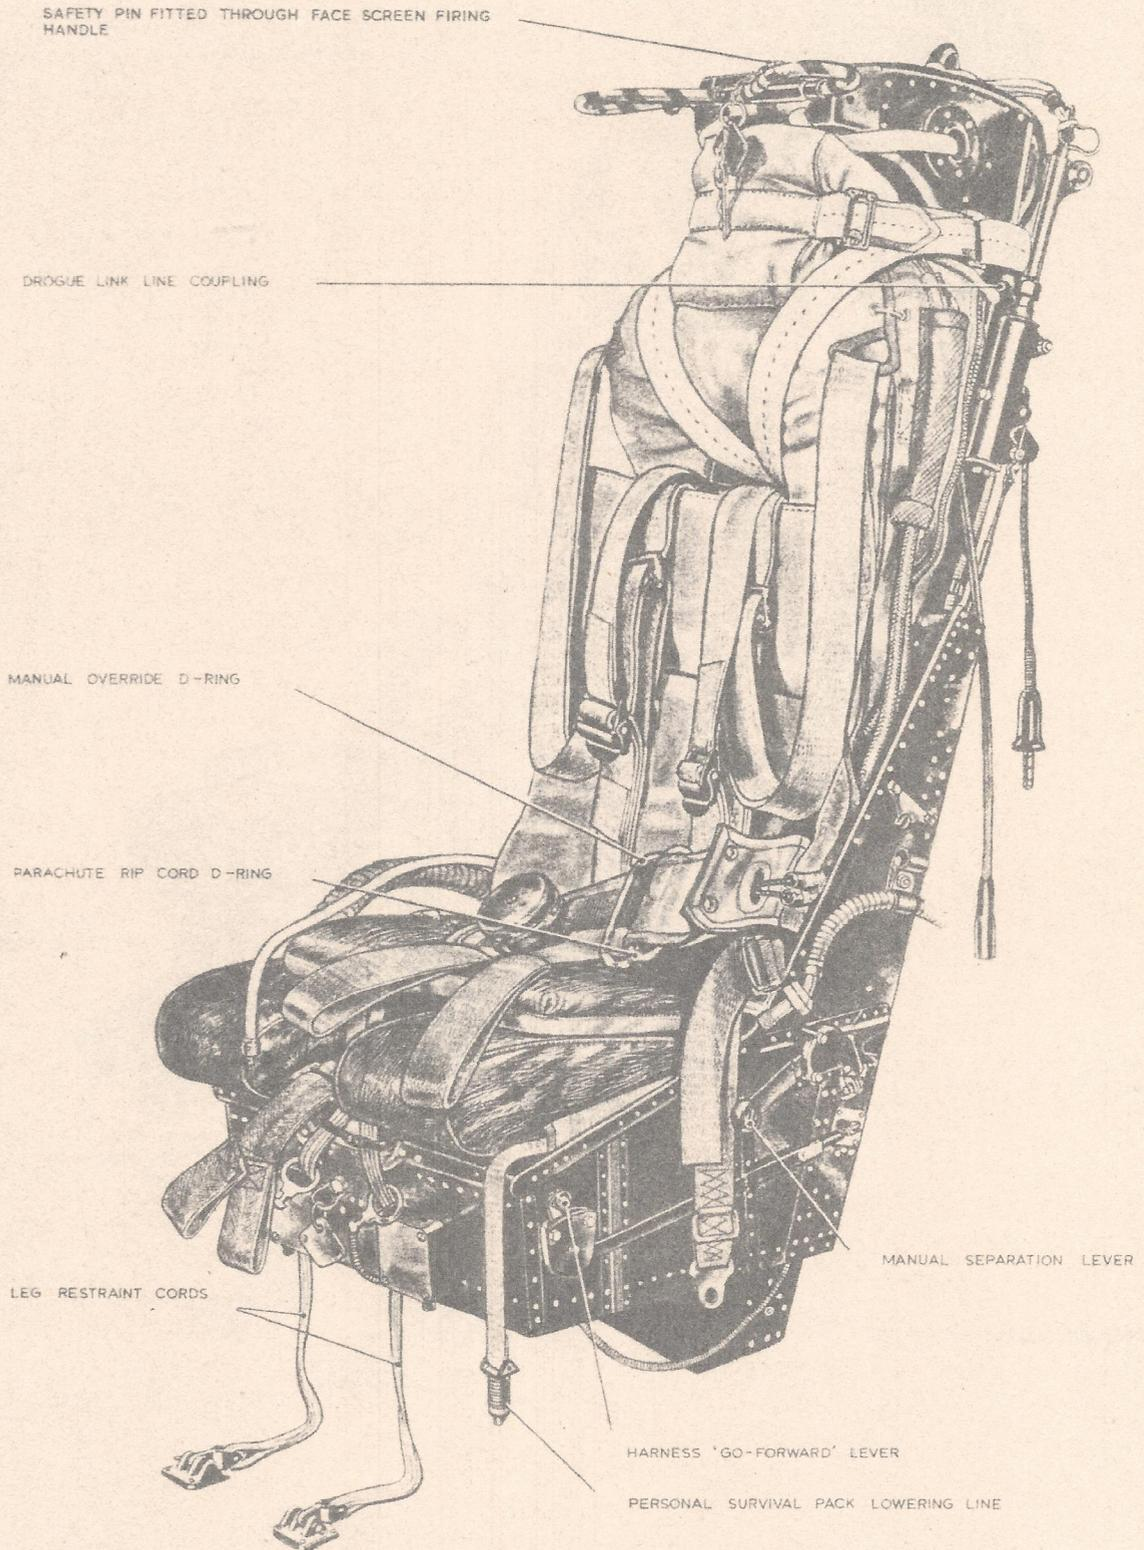

Fig. 1. The seat equipped (1)
13. The following procedure is to be used when installing the equipment in the seat, reference being made to fig. 1, 2, 3, 4, 5 and 6 for detail, as necessary :-